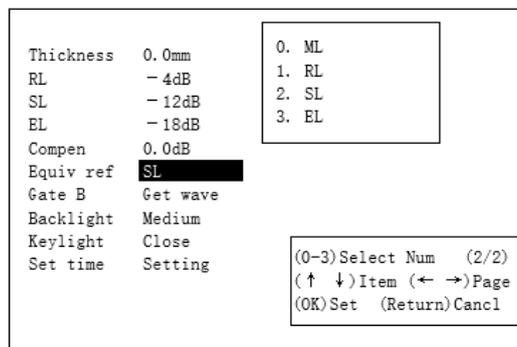

Figure2-20
2.2.7.17 Equivalent standard selection: Press , the instrument default SL inverse display, as shown in Figure 2-20